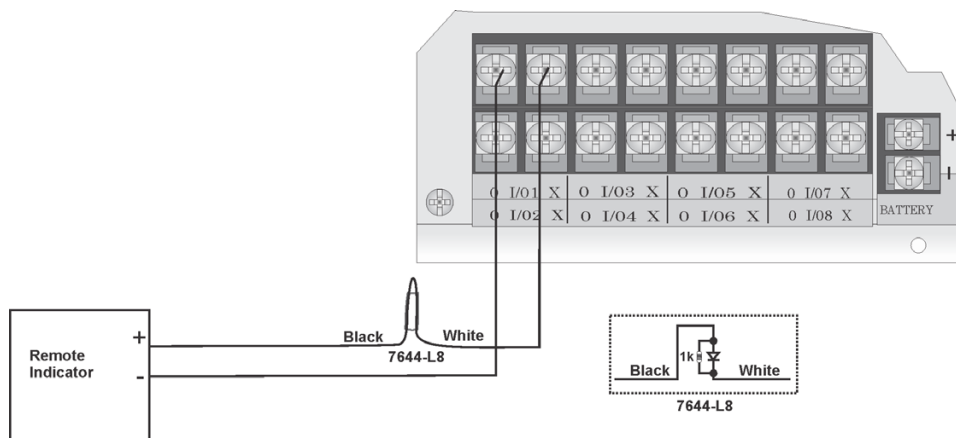

Figure 4.60 Polarity Reversal Connection Using the 7644-L8
1. Wire the 7644-L8 to the control panel as shown in Figure 4.60. Do not install an EOL resistor on the terminals of the Flexput circuit used.